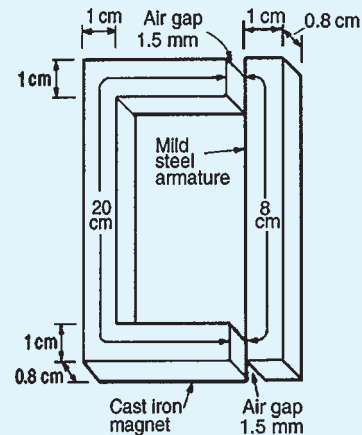

Figure 7.8
6. Figure 7.8 shows the magnetic circuit of a relay. When each of the air gaps are 1.5 mm wide find the m.m.f. required to produce a flux density of 0.75 T in the air gaps. Use the B–H curves shown on page 80. [2970 A]